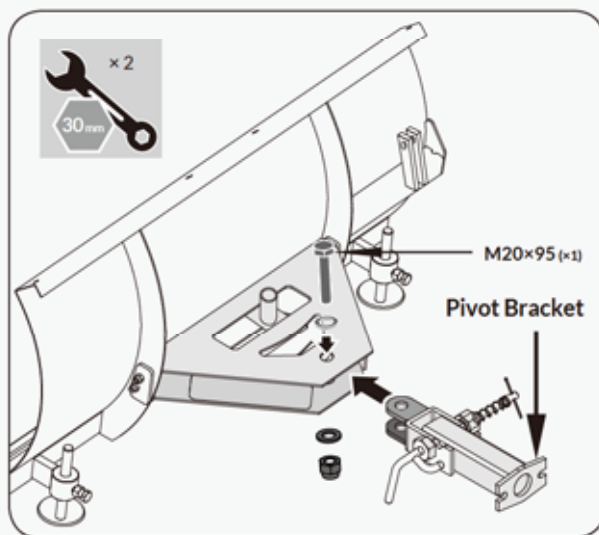

Figure 2b
2. Position the pivot bracket inside the mounting bracket and align with mounting bracket holes. Secure with M20×95 hex bolt, washers and nut. (See **Figure 2b**)